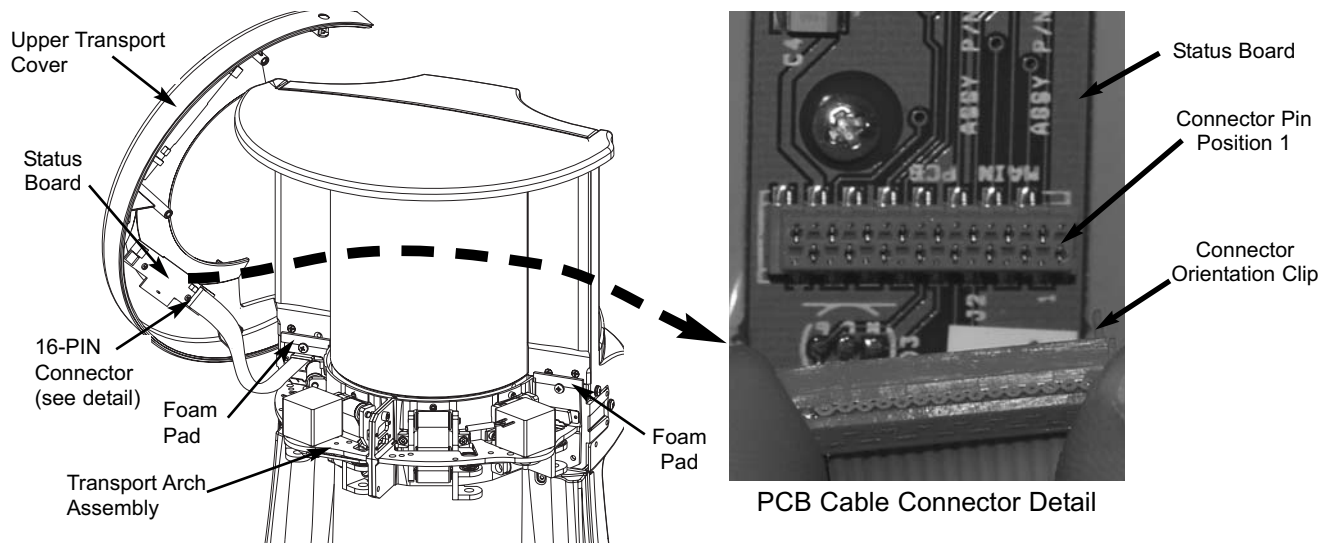

Figure 5. Top Transport Cover PCB Cable Connector
Important: Refer to Figure 5 and make sure that the orientation clip on the cable connector and the red stripe on the ribbon cable are on the same side as the board connector pin position 1.
1. Install the two foam pad strips supplied in the replacement kit to the top of the installed transport mounting flange as shown by Figure 5. This is accomplished by removing the protective film from the adhesive side of foam pad strips and pressing each to the top of the corresponding flange.
2. Refer to Figure 5 and connect PCB Cable to the Upper Transport Cover PCB Connector. Observe the correct orientation of the 16-pin connector.